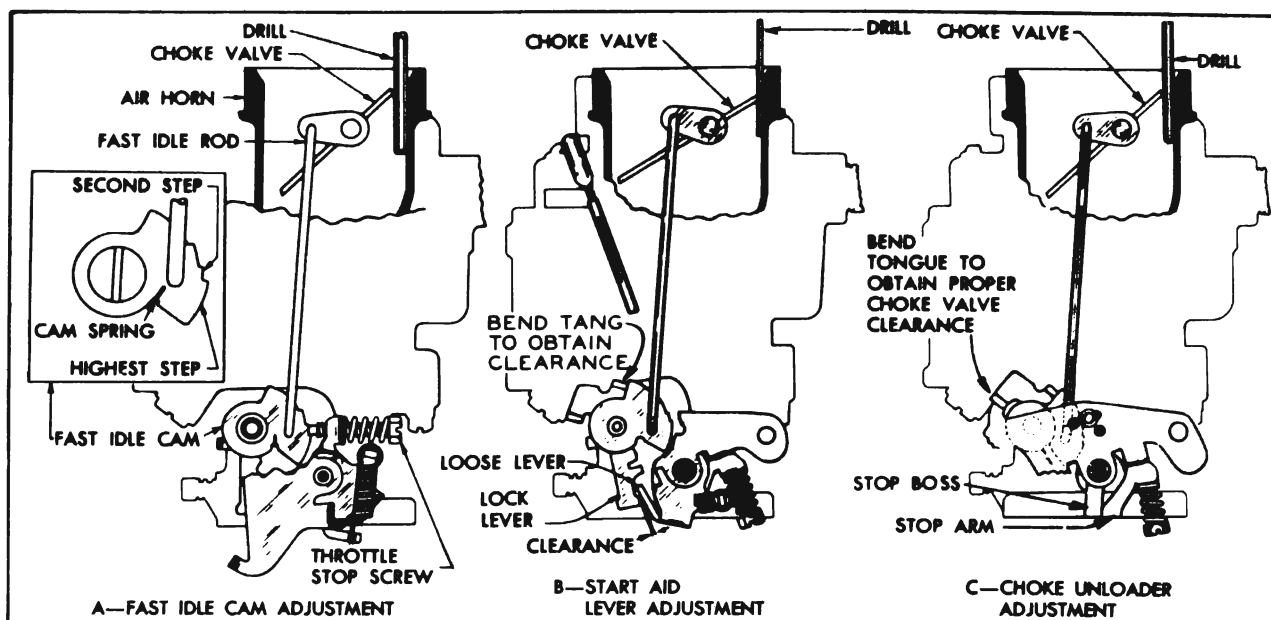

Figure 3-63—Fast Idle Cam and Choke Unloader Adjustments
If the engine becomes flooded for any reason, the choke valve can be partially opened by depressing accelerator pedal to the full extent of its travel. This causes a tongue or arm on the throttle lever to contact and rotate the fast idle cam, which forces the choke valve open. See figure 3-63 (C).
1. Place a No. 54 drill between wall of air horn and the center of upper edge of choke valve, and hold valve firmly closed against the drill. See figure 3-63 (A).
3. Make sure that the fast idle cam spring holds the cam up against end of fast idle rod, then close the throttle until stop screw contacts the fast idle cam. The screw should just clear the edge of the highest step of cam and bear against second step, as shown in figure 3-63 (A).
drill at the same point, then hold choke valve firmly closed against drill. See figure 3-63 (B).
6. Slowly open and close throttle valve several times and check clearance between the start aid loose lever on throttle stem and the lock lever behind the fast idle cam as indicated in figure 3-63 (B).